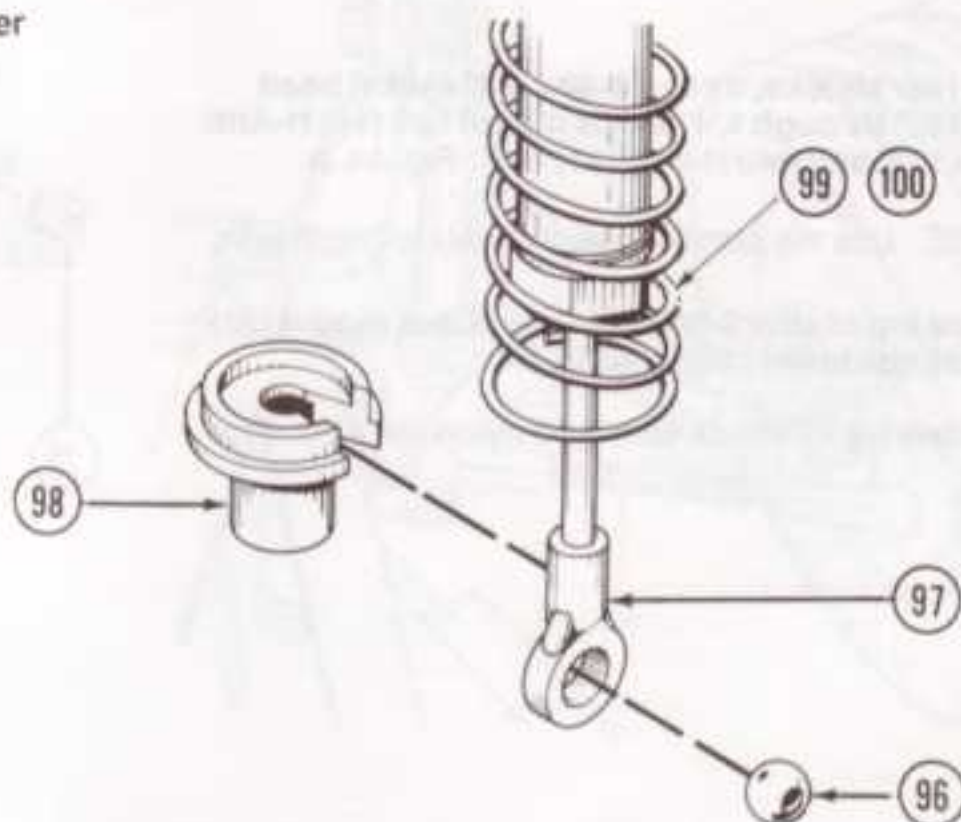

FIG. 42
12. Press the 1/4" shock mount ball (96) into the lower shockmount (97). Snap the shock cup (98) onto the shaft (88) (89) and down onto the lower shock mount (97) as shown. Fig. 42.
13. Slide the spring [Front (99), Rear (100)] down over the shock to rest on the shock cup (98). Fig. 42.